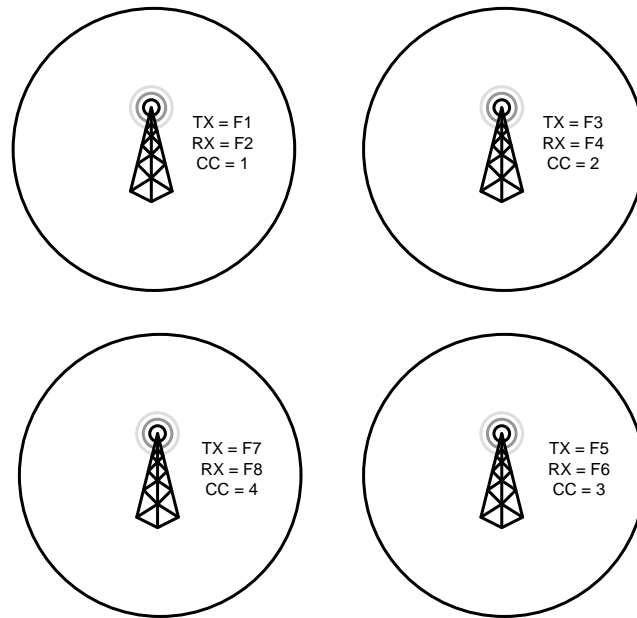

Figure 2-7 Isolated Non-Overlapping Coverage (Rural)
2. **Isolated Non-Overlapping Coverage (Rural)** – This type of coverage is representative for rural communities, where sites are separate by considerable distance thus proving non-overlapping RF coverage; refer to Figure 2-7. The non-overlapping sites may reuse the frequencies, but must use different color codes to be identified by the subscribers during roaming. A subscriber will only be with coverage of one site at a time. A radio user transitions from one site to another within several hours.